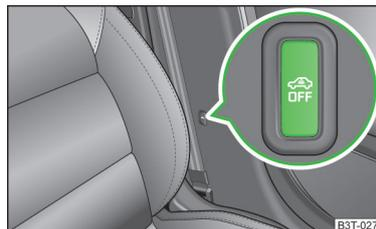

Fig. 37
- › Press the symbol button  » Fig. 37 on the B-column on the driver's side.